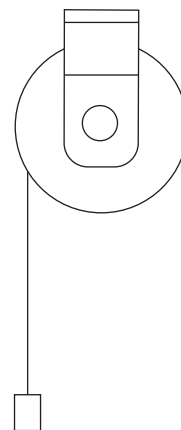

Figure 3-4
3.0.4.1 The cable is lifted vertically in lift applications. The reel is normally designed to handle only the total weight of the cable. Some lift applications may require ball stops to control the length of cable to be retracted. See Figure 3-4.